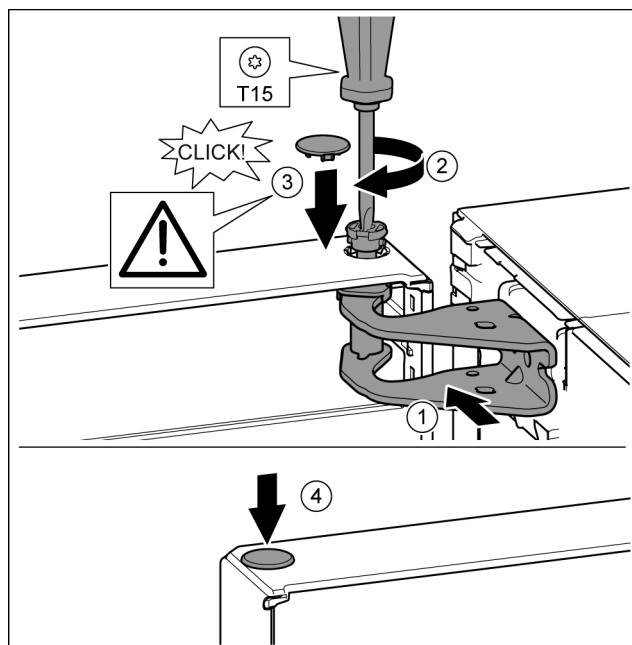

Fig. 23
- Fig. 23 (1)*
- ▶ Insert the bolt and tighten with a T15 screwdriver. *Fig. 23 (2)*
- ▶ Fit the protective cover to protect the door: Insert the protective cover and check that it is attached to the door. If not, insert the bolt fully. *Fig. 23 (3)*
- ▶ Insert the plugs. *Fig. 23 (4)*